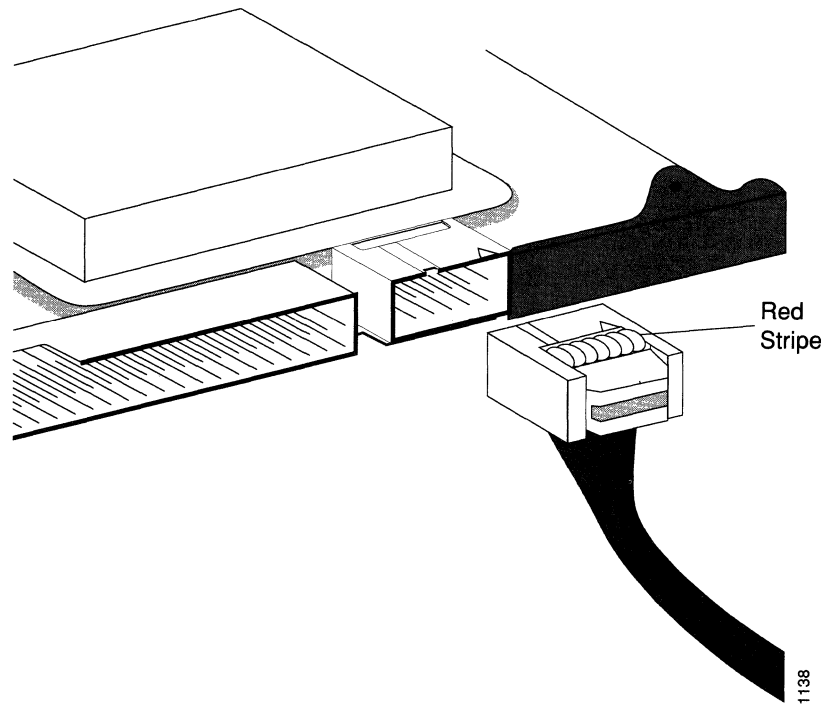

Figure 5-34 10-Pin DIP Header Cable Attachment
- Step 5:** Attach the 10-pin DIP header cable to the keyed connector as shown in Figure 5-34.
Note: The red stripe on the cable is on the right in the orientation shown in Figure 5-34. In addition, the arrows on the connectors indicate the cable's correct position.